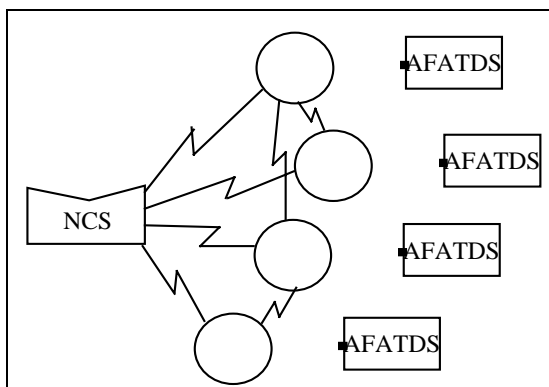

Figure 25. Example of an EPLRS Network.
A. Overview. EPLRS, or the Enhanced Position Locating Reporting System, is a position locating, navigation, identification, and communications system which allows AFATDS to obtain unit location information and to communicate with other AFATDS OPFACs. EPLRS consists of a net control station (NCS) that establishes and controls a network of individual radio sets (RS), see Figure 25. The RS is also known as an Enhanced PLRS User Unit (EPUU). An RS connects to an AFATDS TCIM via a TCIM-EPLRS interface cable.